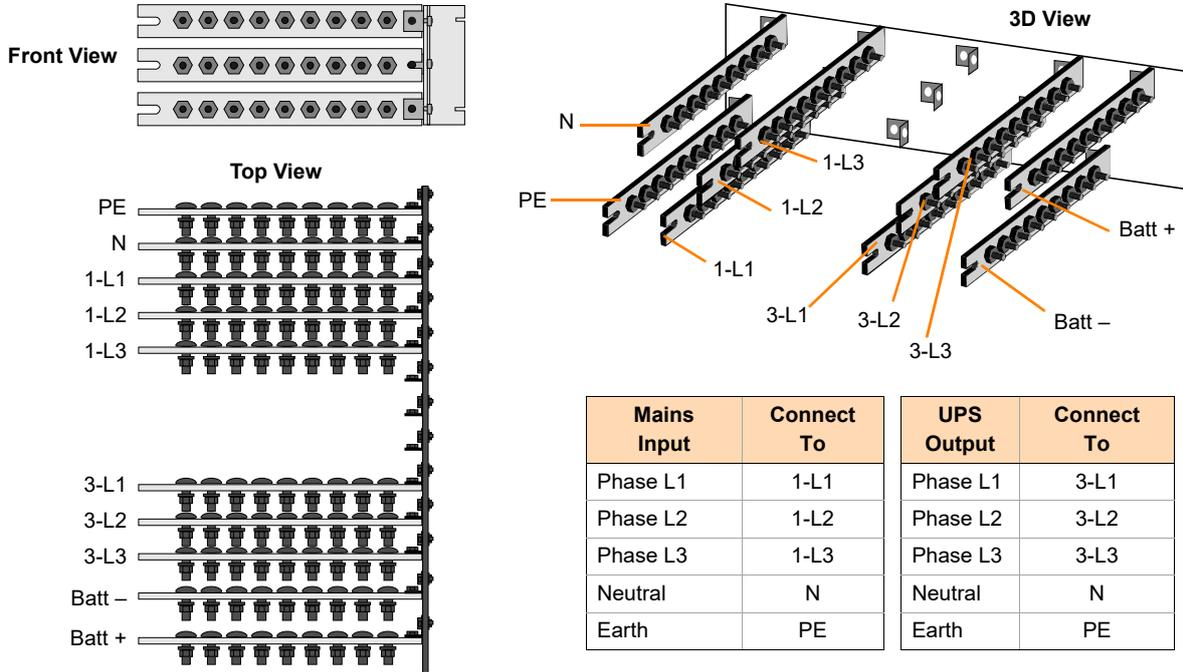
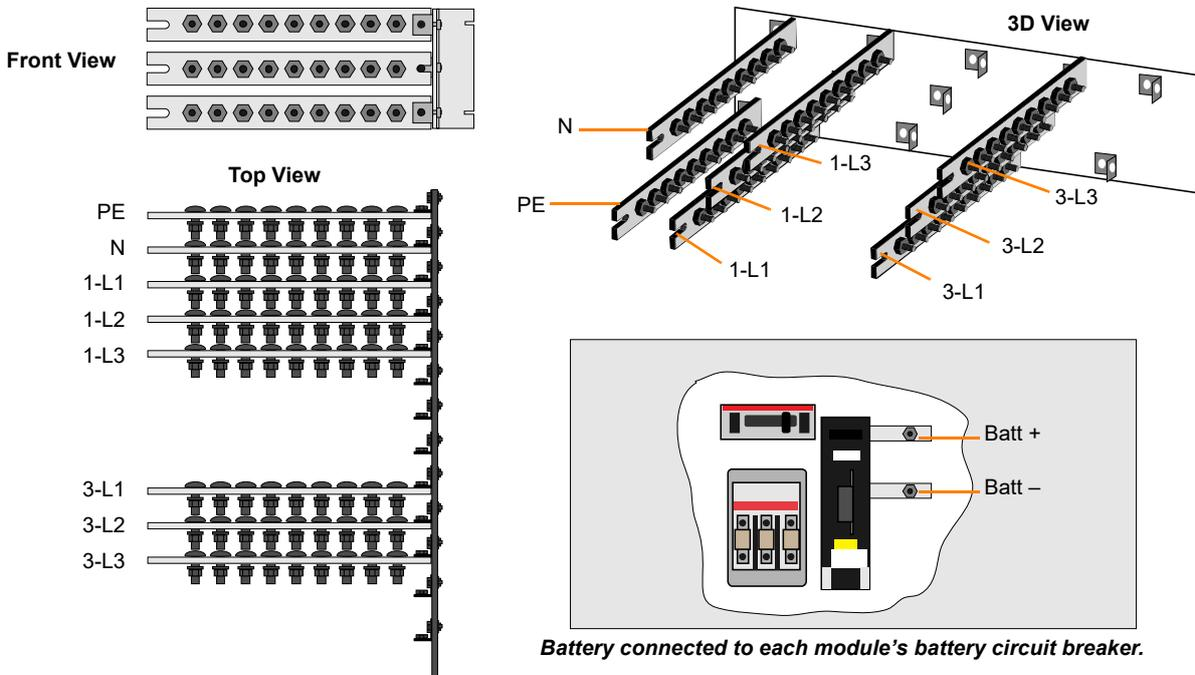

Figure 4.12 Single input with common battery
Figure 4.13 Single input with separate batteries
2. Connect the earth cable from the mains distribution board(s) to the protective earth (PE) busbar, as shown in Figure 4.12 to Figure 4.15.
3. Refer to the schematic drawing and connection table in Figure 4.12 (common battery system) or Figure 4.13 (separate battery system).